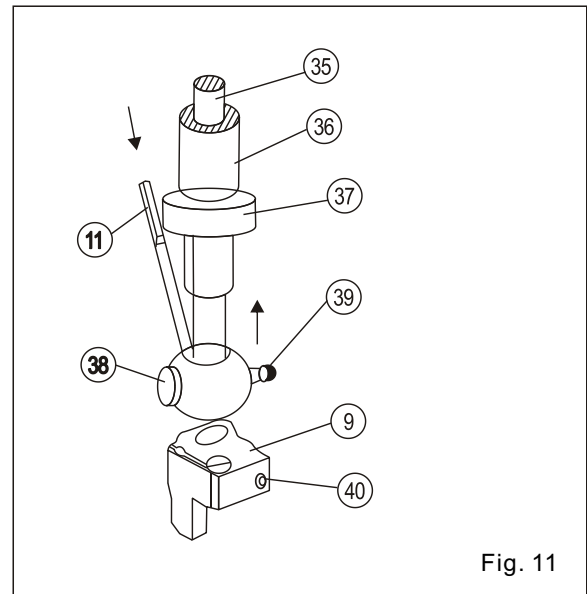

Fig. 11
(3) Use new needle (No. 11 in Fig. 11) upon installation. Insert the needle (No. 11 in Fig. 11) into the needle fixing sleeve (No. 38 in Fig. 11), and fixed by fastening screw (No. 39 in Fig. 11). Then, put the needle sleeve (with closing needle in) matched with needle into the closing needle sleeve shaft (No. 35 in Fig. 11), fixed by fastening screw (No. 40 in Fig. 11). Check whether closing needle sleeve makes linear and smooth movement along the needle.
(2) The screw on bar driver (No. 43 in Fig. 12). Mount fixed needle sleeve (No. 38 in Fig. 11) and closing needle sleeve (No. 9 in Fig. 11) to the respective shafts. Needle is inserted from the upper part of fixed needle sleeve. The screw (No. 39 in Fig. 11) shall be pointed right, and keep the top end of needle in contact with the ring (No. 37 in Fig. 11), as indicated in Fig. 11. Fasten the screw (No. 39 in Fig. 11). Push the closing needle sleeve shaft (No. 35 in Fig. 12) to the top and then adjust the closing needle sleeve (No. 9 in Fig. 12), so that it can be made in contact with the fixed needle sleeve (No. 38 in Fig. 11) and the shoulder of closing needle sleeve shaft (No. 35 in Fig. 12) at the same time. And then fasten the screw (No. 40 in Fig. 11). After completing these operations, lift up the closing needle sleeve shaft fully to see whether it moves freely and whether the needlepoint makes linear movement. The needlepoint shall be aligned to the center of pinhole on needle plate.